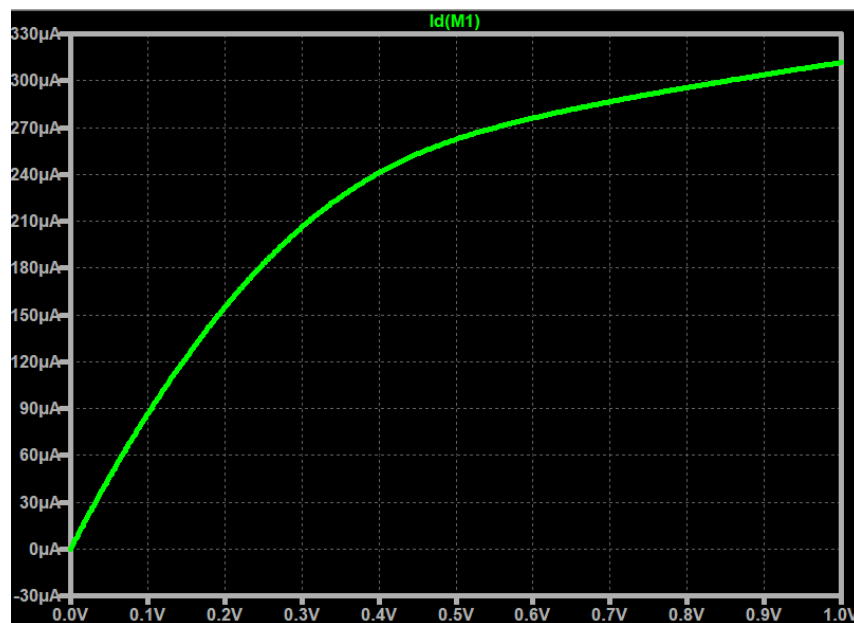

Figure 2.3 Short-channel NMOS I_{DS} vs. V_{DS} with $V_{GS} = 1V$
Let's try to appreciate the results so far. First, as mentioned earlier, it is interesting to note why t_{PLH} is roughly 2x higher than t_{PHL} . If we go back to the current characterization of our PMOS and NMOS transistors, Figure 2.3 and Figure 2.5 shows that the NMOS current is almost twice (or a little bit higher) than that of the PMOS. Also take note that these transistors were originally sized to have the same widths and lengths! If we divide the NMOS saturation current equation and the PMOS saturation current equation, and assuming $V_{THN} = V_{THP}$ (don't worry they're relatively close), we get $\frac{\mu_n}{\mu_p}$. The mobility of electrons is 2x higher than holes!
- Re-simulate a DC sweep analysis with V_{DS} changing from 0 to 1V in 1mV increments. Let $V_{GS} = 1V$ as well. Plot the I_{DS} current as you will need it for comparison later. You should get the same as Figure 2.3 (also reposted below) which you should've already simulated earlier.